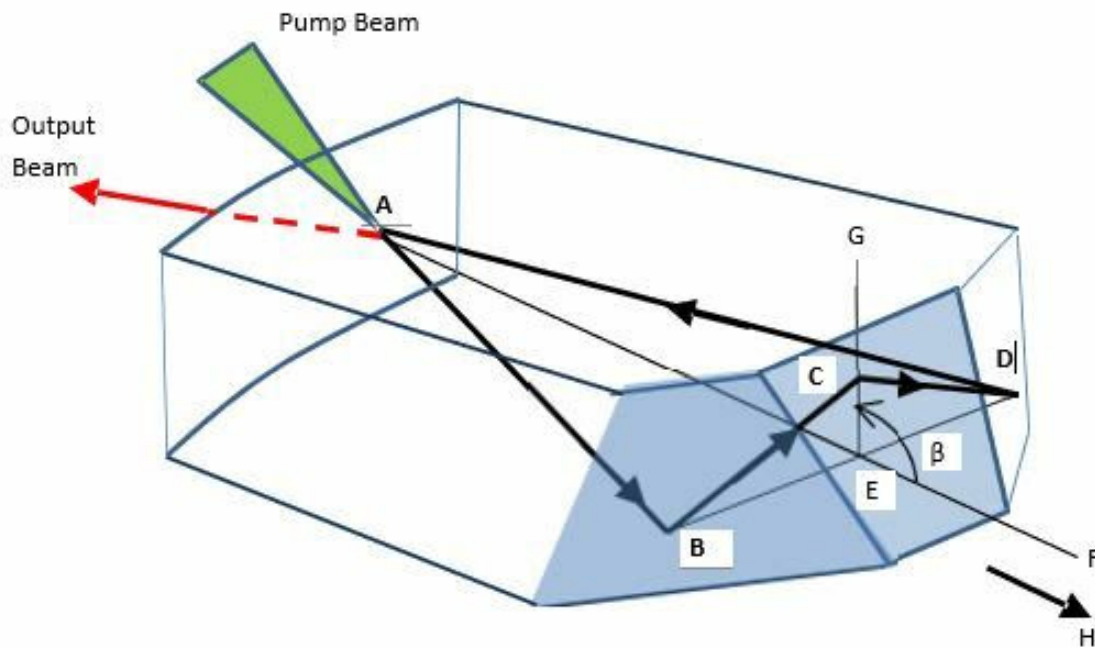

Figure 1. Sketch of NPRO Optical Path and Facets
A device called the **NPRO (Non-Planar Ring Oscillator)** was disclosed in patent US4578793 by Kane and Byer. A schematic diagram of the device is illustrated in figure 1, which illustrates how a piece of Nd-doped YAG crystal is used to create a ring laser in a monolithic laser chip:
- A magnetic field is applied along the direction AF in figure 1. This field is used to produce lasing in only one circulation direction (More about this magnetic field later).
Applying a magnetic field to an isotropic, magneto-optic material such as Nd:YAG causes a linear polarization rotation about the light propagation vector; the rotation is proportional to the distance traveled and to the strength of the magnetic field component (along the propagation vector), as described in equation (1) and figure 1.